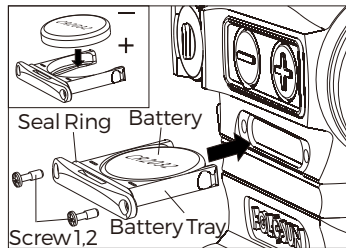

Fig 4-2
2) Battery installation: (Fig 4-2)